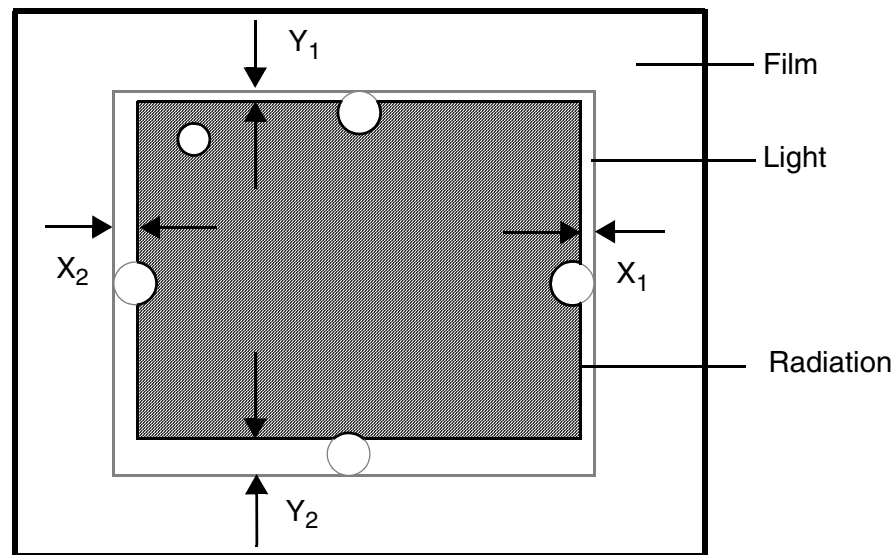

Fig. 6
- Measure the deviations (X_1 , X_2 , Y_1 , Y_2) between the edges of the light field and the edges of the radiation field on all four sides as shown in Fig. 6.